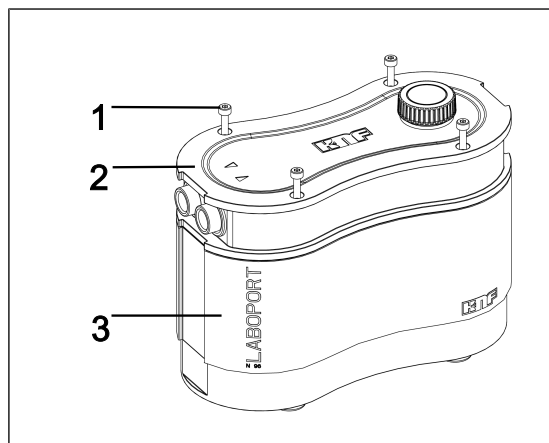
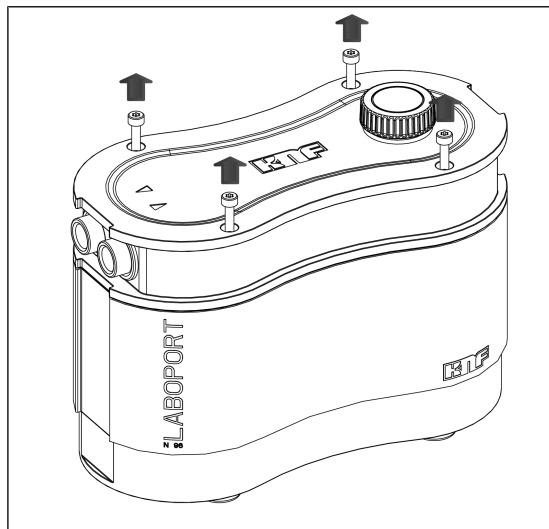
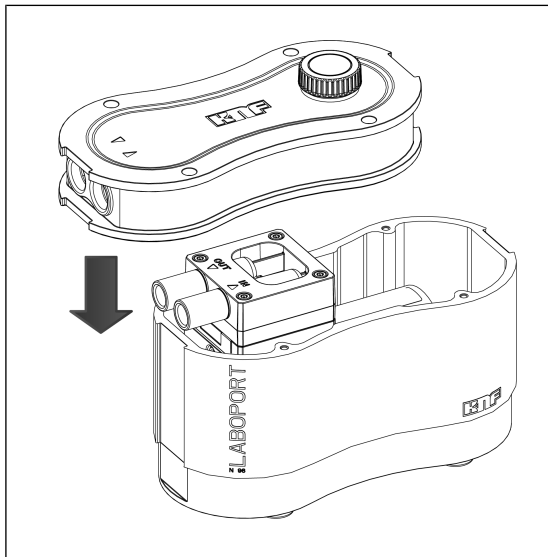

Fig. 6: Opening the housing
Fig.7: Loosening housing screws
Fig. 11: Mounting the housing cover
1. Loosen the four housing screws (Fig. 6/1) und entnehmen Sie diese aus dem Gehäusedeckel (2) (see Fig. 7). Store the screws for later reassembly.
1. Carefully place the housing cover (Fig. 6/2) on the pump housing (3) (see Fig. 11).